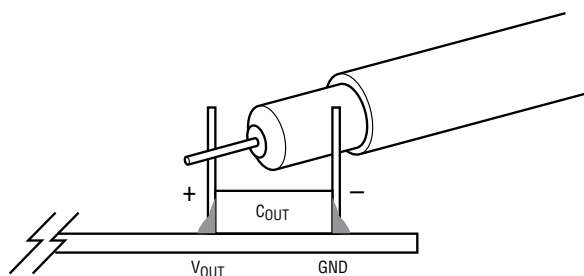

Figure 2. Scope Probe Placement for Measuring Output Ripple Voltage
7. Once the input and output voltage are properly established and the fan is turned on, adjust the load current within the operating range of 0A to 480A max. Observe the output voltage regulation, output voltage ripples, switching node waveform, load transient response and other parameters. Refer to Figure 2 for proper output voltage ripples measurement.
NOTE: To measure the input/output voltage ripples properly, do not use the long ground lead on the oscilloscope probe. See Figure 2 for the proper scope probe technique. Short, stiff leads need to be soldered to the (+) and (–) terminals of an input or output capacitor. The probe’s ground ring needs to touch the (–) lead and the probe tip needs to touch the (+) lead.